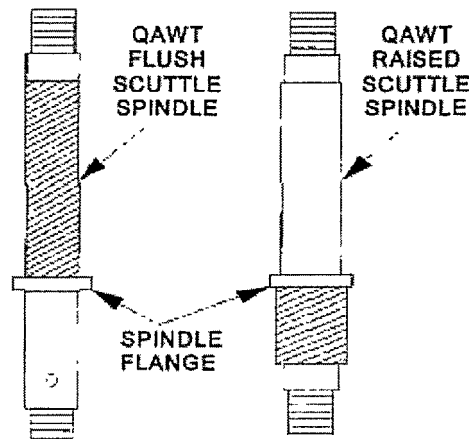

Figure 600-7.8. Scuttle Spindles
- 3) The machined flange is cracked or completely broken away. Often, the flange will crack around the entire periphery of the inner diameter, breaking free and forming what looks like a washer. See figure 600-7.8.
- 3) The machined flange is cracked or completely broken away. Often, the flange will crack around the entire periphery of the inner diameter, breaking free and forming what looks like a washer. See figure 600-7.8. If either the spindle or the spider is damaged, replace both parts; otherwise, the spindle and spider will not fit properly. If the spider must be replaced, be aware that spiders for 18- and 21-inch scuttles have three dog arm holes and are interchangeable. Spiders for 25-inch scuttles have four dog arm holes and can only be used on 25-inch scuttles.